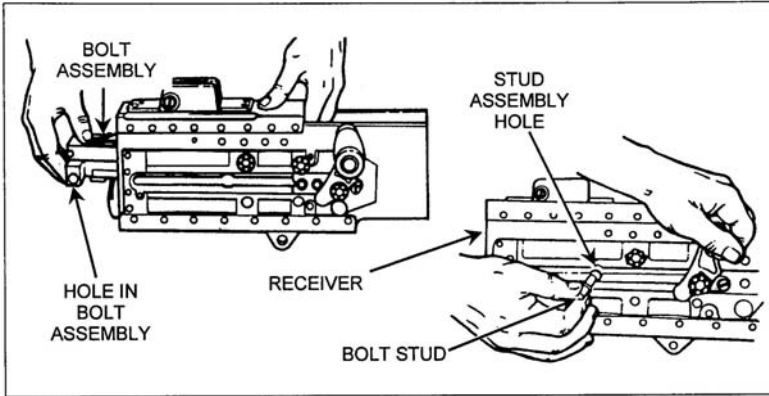

Figure 071-022-0001-40. Installation of the bolt assembly
f. Assemble the driving spring rod assembly (figure 071-022-0001-41). Install the driving spring rod assembly in the upper right corner of the bolt. Push forward and to the right until the driving spring rod assembly engages in the hole in the side plate of the receiver—not in the groove for the backplate.